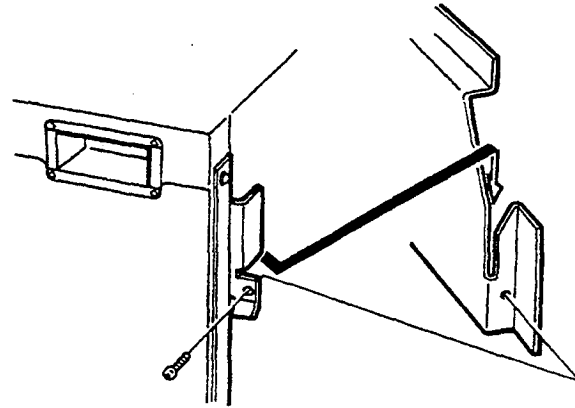

Figure 3-46 Securing the Level II Advanced Expansion KSU to the Wall Mount Bracket
3. Holding the Expansion KSU, lower the two hooks that protrude from the rear of the KSU over the wall mount bracket and secure to the wall mount bracket from the side using the two provided bolts. Refer to Figure 3-46 - Securing the Level II Advanced Expansion KSU to the Wall Mount Bracket.